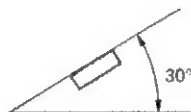

Fig. 28
- If installation angle exceeds 30° from horizontal, the unit might not give its optimum performance. (Fig. 28)